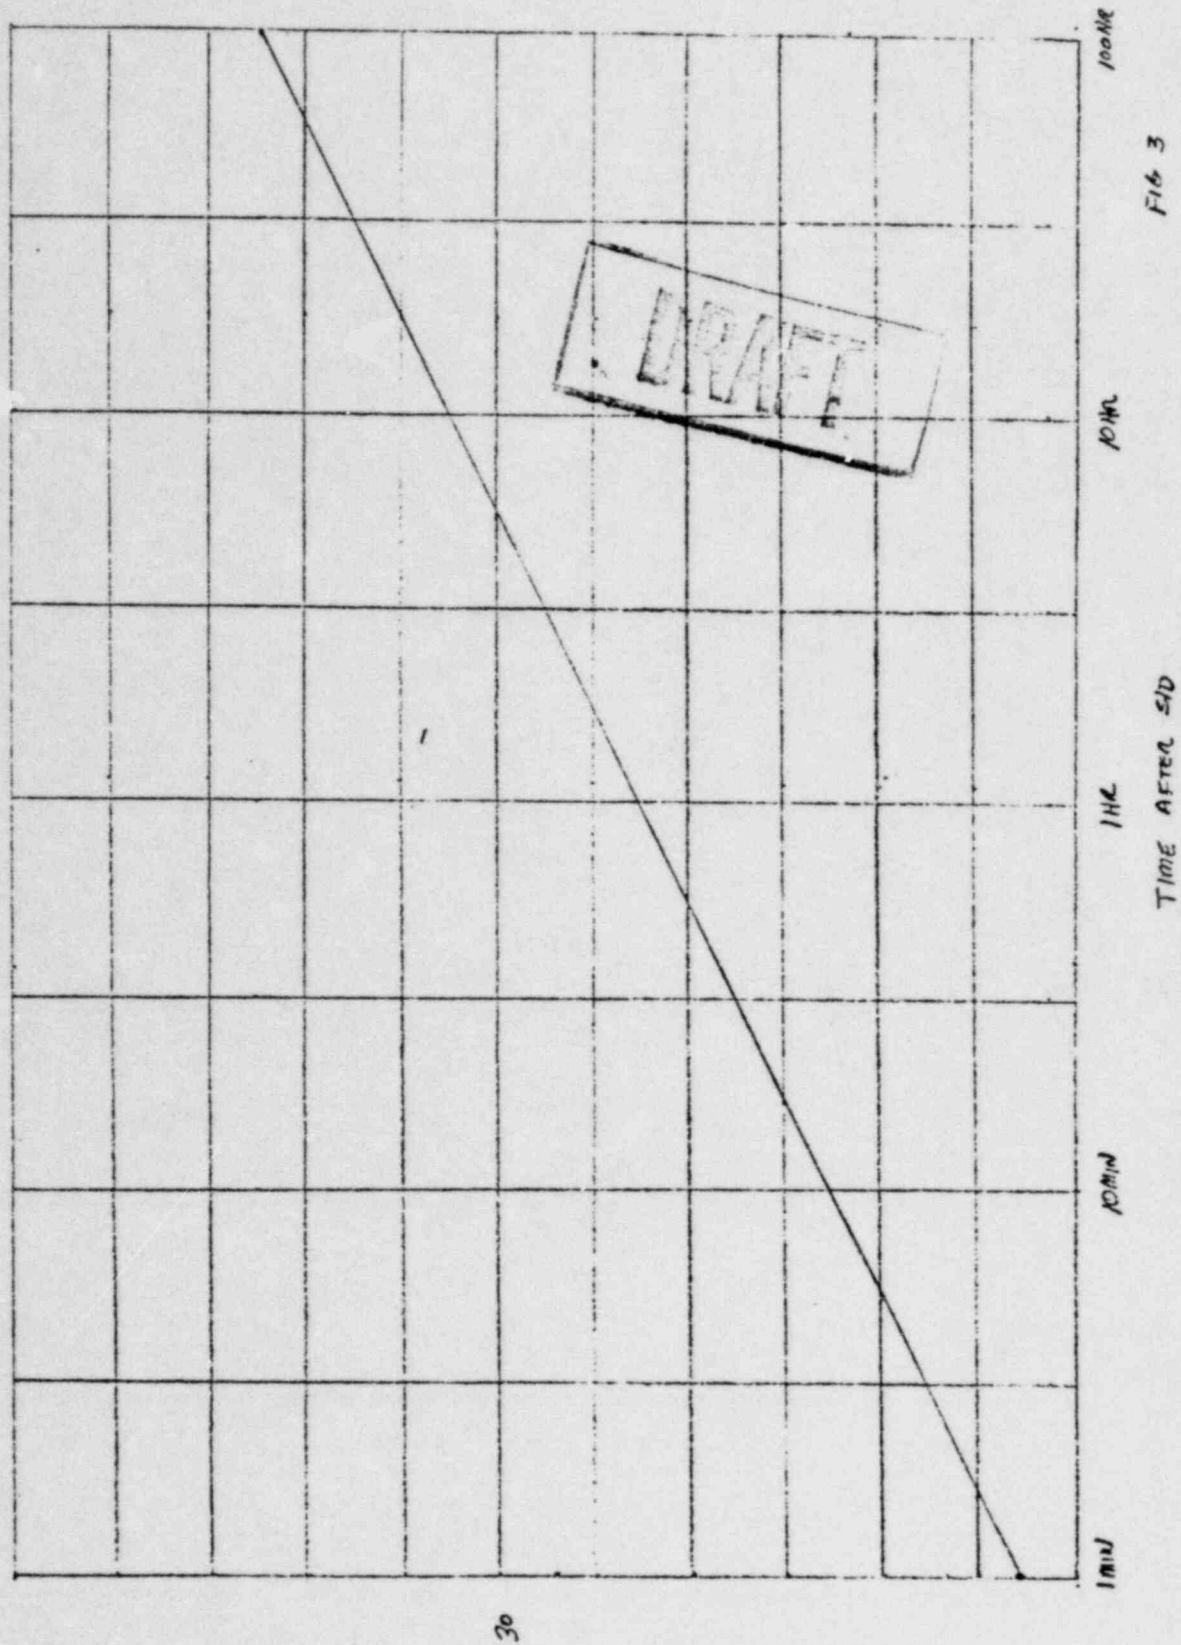

Fig 3
Refer to Figure 3 for maximum acceptance core uncover time prior to performance of step 3.14.
- 3.15 If RPV water level indication is not restored within the maximum acceptable core uncover time as determined by Figure 3, return to paragraph 3.2. _____